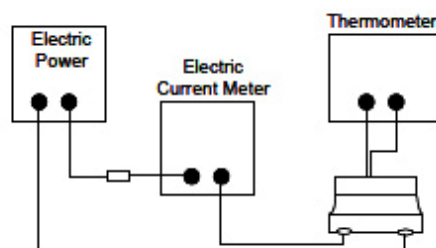

Fig.5.3.4-1
- Definition of Temperature rise current: DC current that causes the temperature rise ($\Delta T = 40^{\circ}\text{C}$) from 20°C ambient (see Fig. 5.3.4-2).